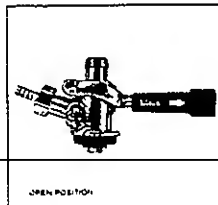

Fig 8
- Pull tapping handle out and press downward until it locks into position. (See Figure 8) The keg is now tapped.